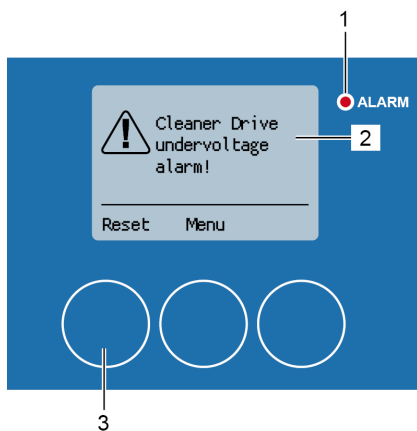

Fig. 197: Cleaner drive undervoltage alarm
The alarm message “Cleaner Drive undervoltage alarm!” (Fig. 197/2) is displayed during the cleaning process if there is a problem with the power supply of the rotor cleaner drive. The red alarm LED (Fig. 197/1) lights up.
2. Reset the alarm message with [Reset] (Fig. 197/3).